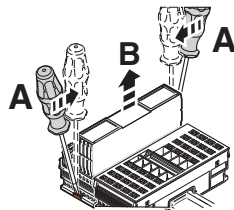
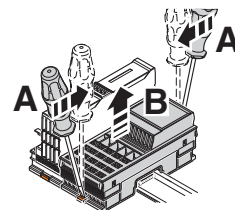

Figure 5-9 Removing the bus coupler
Figure 5-10 Removing an input/output module
- Insert a suitable tool (e.g., bladed screwdriver) first in the upper **and** then in the lower snap-on mechanism (base latches) of the module release it (Figure 5-9, Figure 5-10, A). The base latches are locked in place in the open position.
- Remove the electronics module **perpendicular** to the DIN rail (Figure 5-9, Figure 5-10, B). The base latches return to the idle position again.